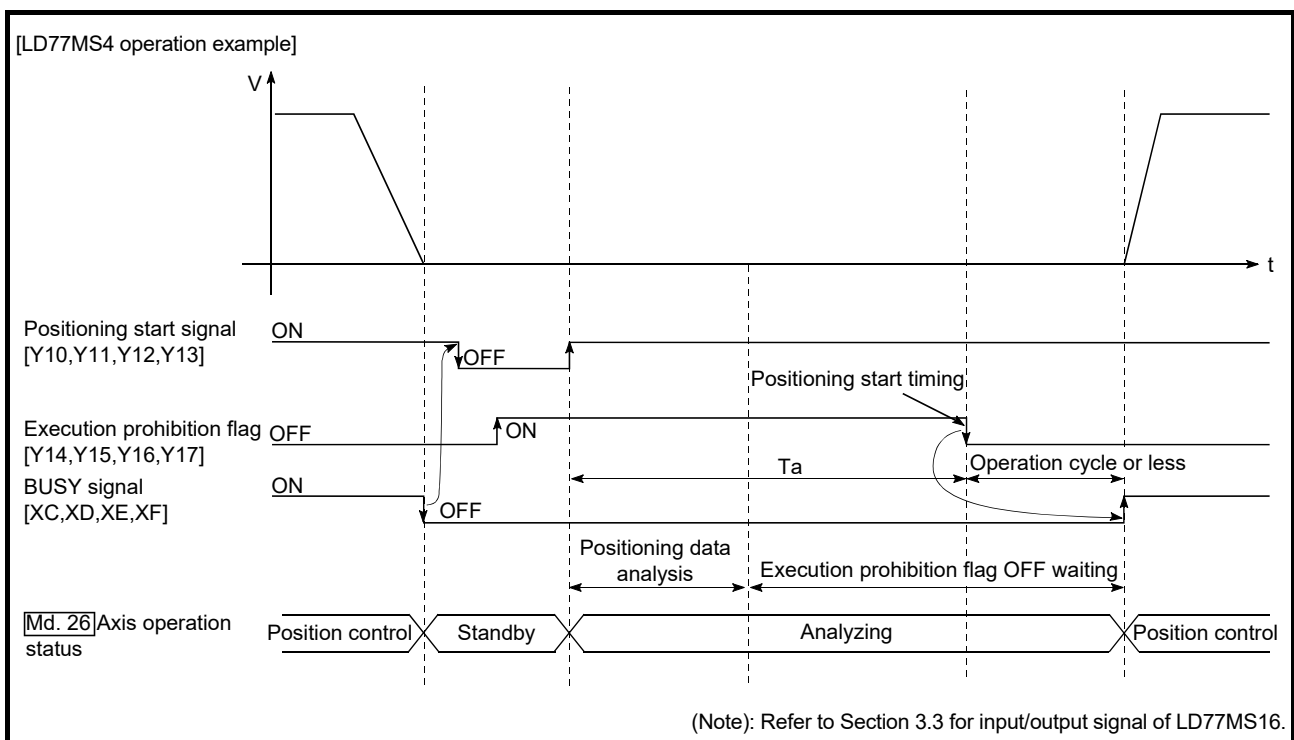

Fig. 13.46 Operations of pre-reading start function
The pre-reading start function is performed by turning ON the positioning start signal with the execution prohibition flag ON, or by executing the dedicated instruction (ZP.PSTRT1, ZP.PSTRT2, ZP.PSTRT3, and ZP.PSTRT4). However, if positioning is started with the execution prohibition flag ON, the positioning data is analyzed but servo start is not provided. While the execution prohibition flag is ON, "[Md.26] Axis operation status" remains unchanged from "5: Analyzing". The servo starts within operation cycle after the execution prohibition flag has turned OFF, and "[Md.26] Axis operation status" changes to the status (e.g. position control, speed control) that matches the control method. (Refer to Fig.13.46)
- (1) The time required to analyze the positioning data is up to 0.88ms (LD77MS2/LD77MS4)/3.55ms(LD77MS16).
- (2) After positioning data analysis, the system is put in an execution prohibition flag OFF waiting status. Any change made to the positioning data in the execution prohibition flag OFF waiting status is not reflected on the positioning data. Change the positioning data before turning ON the positioning start signal.
- (3) The pre-reading start function is invalid if the execution prohibition flag is turned OFF between when the positioning start signal has turned ON and when positioning data analysis is completed ($T_a < \text{start time}$, T_a : Refer to Fig. 13.46).
- (4) The data No. which can be executed positioning start using "[Cd.3] Positioning start No." with the pre-reading start function are No. 1 to 600 only. Performing the pre-reading start function at the setting of No. 7000 to 7004 or 9001 to 9004 will result in the error "Outside start No. range" (error code: 543).
- (5) Always turn ON the execution prohibition flag at the same time or before turning ON the positioning start signal. Pre-reading may not be started if the execution prohibition flag is turned ON during T_a after the positioning start signal is turned ON. The pre-reading start function is invalid if the execution prohibition flag is turned ON after positioning start with the execution prohibition flag OFF. (It is made valid at the next positioning start.)